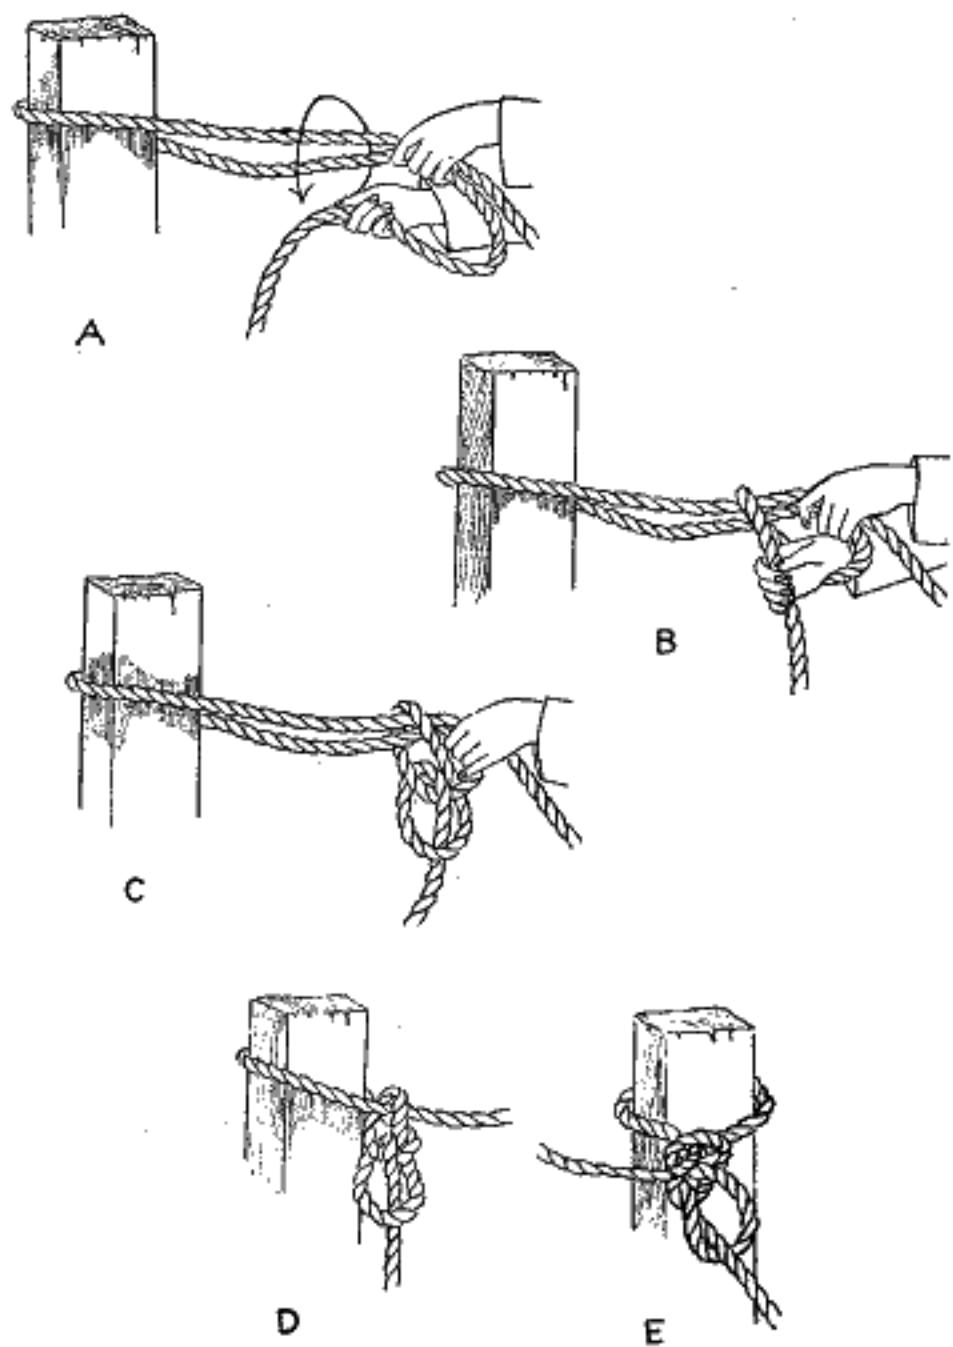

FIG. 330.—The hitching or manger knot.
**391. The hitching or manger knot** (Fig. 330) is started like a slip knot. Instead of drawing the rope entirely through and completing the slip knot, however, a bight is left, and the end of the rope passed through this bight.